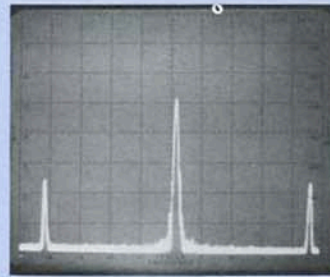
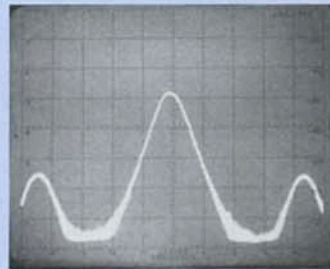

Figure 36.
Figure 37.
23. Select 10 kHz modulation on the ET-2399A. Set SCAN WIDTH to 2 kHz/DIV. Switch MODULATION ON and turn MODULATION LEVEL approximately  $\frac{1}{4}$  turn. Note the 10 kHz sidebands on the carrier. (Figure 36.) Change BANDWIDTH to 1 kHz (this is the minimum bandwidth offered by other microwave spectrum analyzers). Note the difference in resolving capability. (Figure 37.)
The amplitudes on the display in Figure 36 are asymmetrical because the modulator in the ET-2399A produces incidental FM as well as the desired AM. (Lower FM and AM sidebands are adding in-phase; upper FM and AM sidebands are adding out-of-phase.) Note second harmonic (and higher order) distortion sidebands. These sidebands are typically 20 dB below the fundamental sidebands, corresponding to 10% second harmonic distortion.